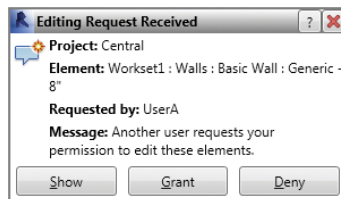

FIGURE 10.23 Granting a request
4. UserB clicks Grant, which will give editability to UserA for that wall element only (Figure 10.23).